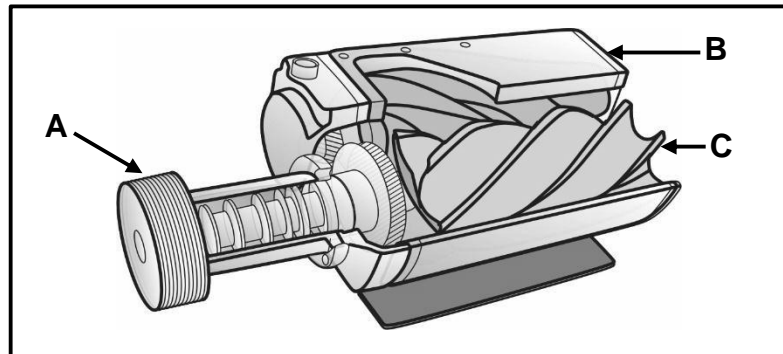

FIGURE 6.9
6.9 FIGURE 6.9 below shows a supercharger. Answer the questions that follow.